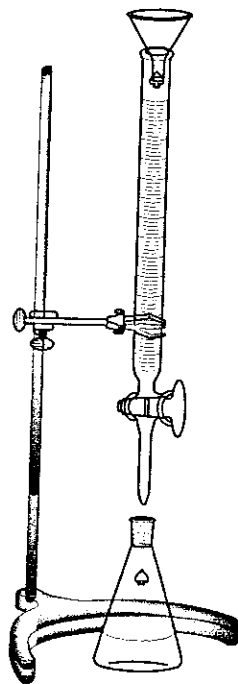

Fig. 1/2003. A typical titration setup.
a) Perform the acid-base titration (fig. 1/2003). Fill the burette with the standard alkali solution ($c_{\text{NaOH}} \approx 0.1 \text{ M}$). Introduce a 5.0 mL aliquot of the starting formic acid solution (Solution 1) into the 100 mL volumetric flask and bring up to the mark, thus obtaining a ~0.3–0.5 M solution (Solution 2). Using the pipette, transfer a 10.00 mL aliquot ($V_{\text{HCOOH},1}$) of Solution 2 into a titration flask. Add 2–3 drops of phenolphthalein and titrate until the pink color is stable for at least 30 s. Add the titrant slowly and uniformly, which will permit to reduce the dispensing error.